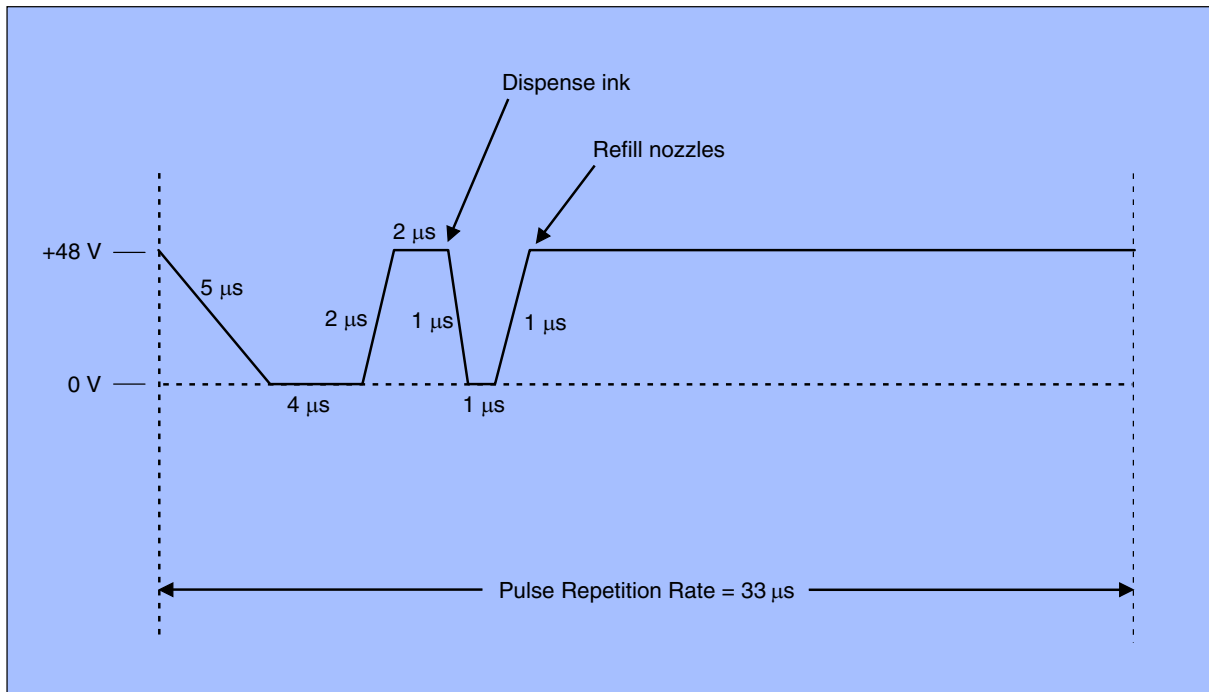
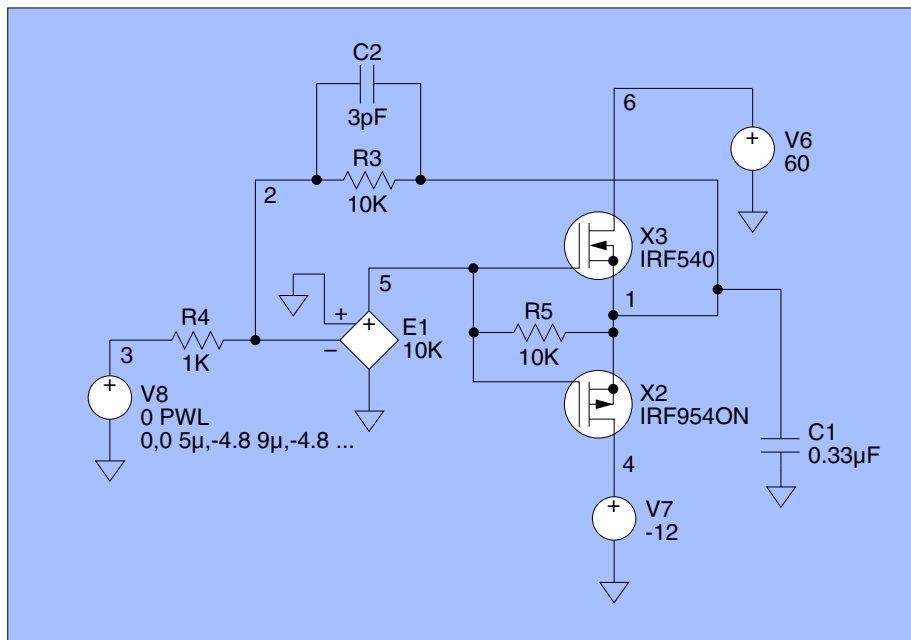
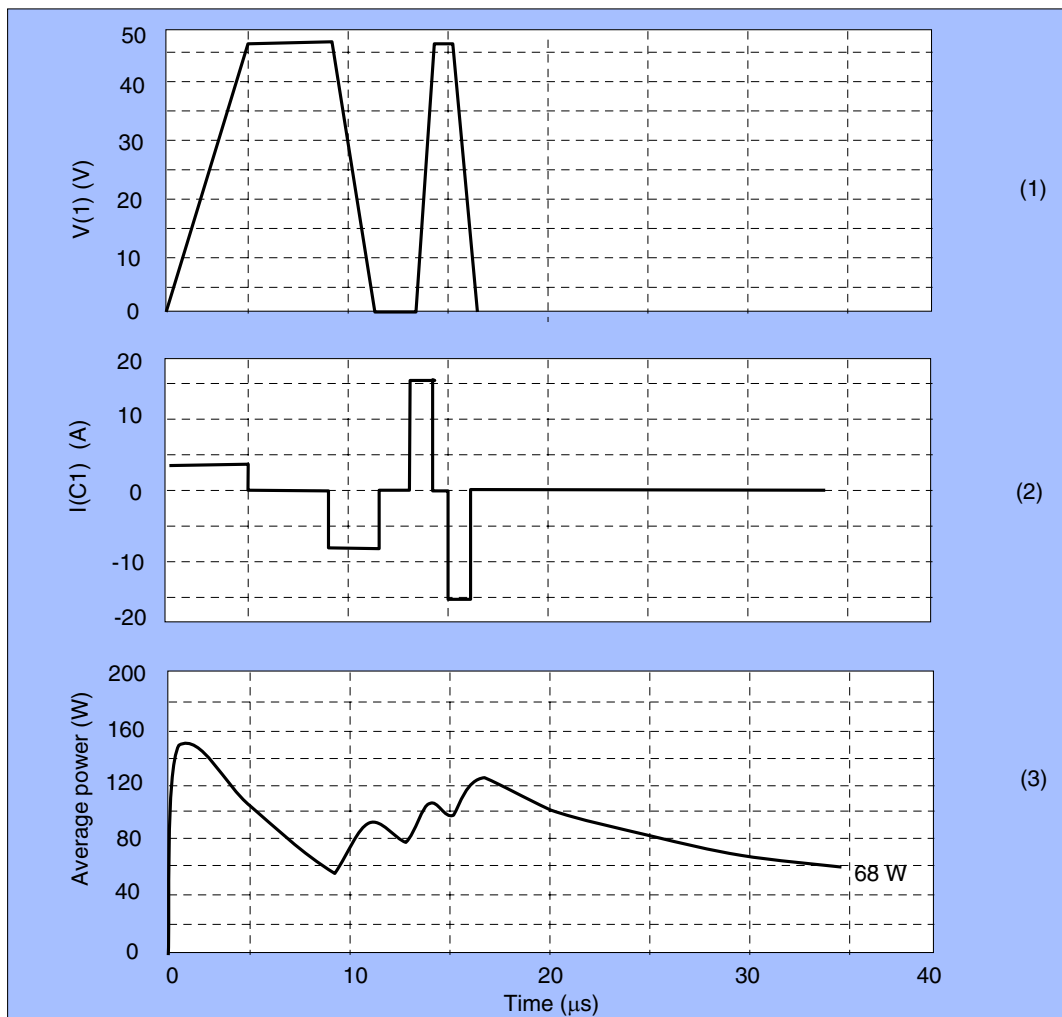

Figure 9. This tailored waveform was devised to optimize performance for a specific printhead.
Figure 11. Spice representation of the transducer drive circuit. Note that capacitor C1 represents the printhead transducer.
Figure 12. Spice (1) amplified output voltage V(1), (2) Current pulses I(C1) applied to capacitor C1, (3) average power dissipated in the amplifier versus time.
The simplest is a trapezoidal waveform which exhibits a controlled ramp on the up slope and a ramp with a slightly different slope on the down side as depicted in Figure 9. Though these slopes are well controlled, they are not necessarily symmetric. The rise on the up slope is likely to be faster. Whereas on the down slope a longer fall time is necessary to make sure ink will have sufficient time to flow from the ink magazine to the nozzle chamber.
The slower speed also ensures sufficient ink will be available when the next droplet is dispensed. A representative wave form is shown in Figure 9. For some inks it may be necessary to double-pulse the piezo transducer to overcome oscillations which might hinder satisfactory ink delivery. Depending on the ink employed, such double-pulsing can counteract oscillations that would otherwise occur when the droplet leaves the jet.
Shown in Figure 11 is a simplified SPICE circuit that represents the MP111FD power operational amplifier circuit. In this example the amplifier is assumed to be driving four inkjet printheads simultaneously. Each printhead will be assumed to have 256 nozzles for a total of 1024 nozzles. The total capacitance of the four heads is 1µF. If we assume only every third nozzle is driven at any instant, then the maximum capacitance in this analysis is reduced to 0.33µF. This is the load capacitance identified as C1 in Figure 11. A piece-wise linear waveform is developed by V8 that duplicates the selected waveform, as illustrated in Figure 9. The results of the SPICE simulation are depicted by the three graphs in Figure 12.
- The pulse rate frequency is 30 kHz and the period of the pulse is 33.33 microseconds. Notice that in Plot (2) in Figure 12 the current pulses end after 16 microseconds. The remainder of the period is dead time. Therefore the time interval for the average is greater than the time over which instantaneous energy is being delivered. Consequently, 68 watts is indeed the average power that must be dissipated by the amplifier over the full period.